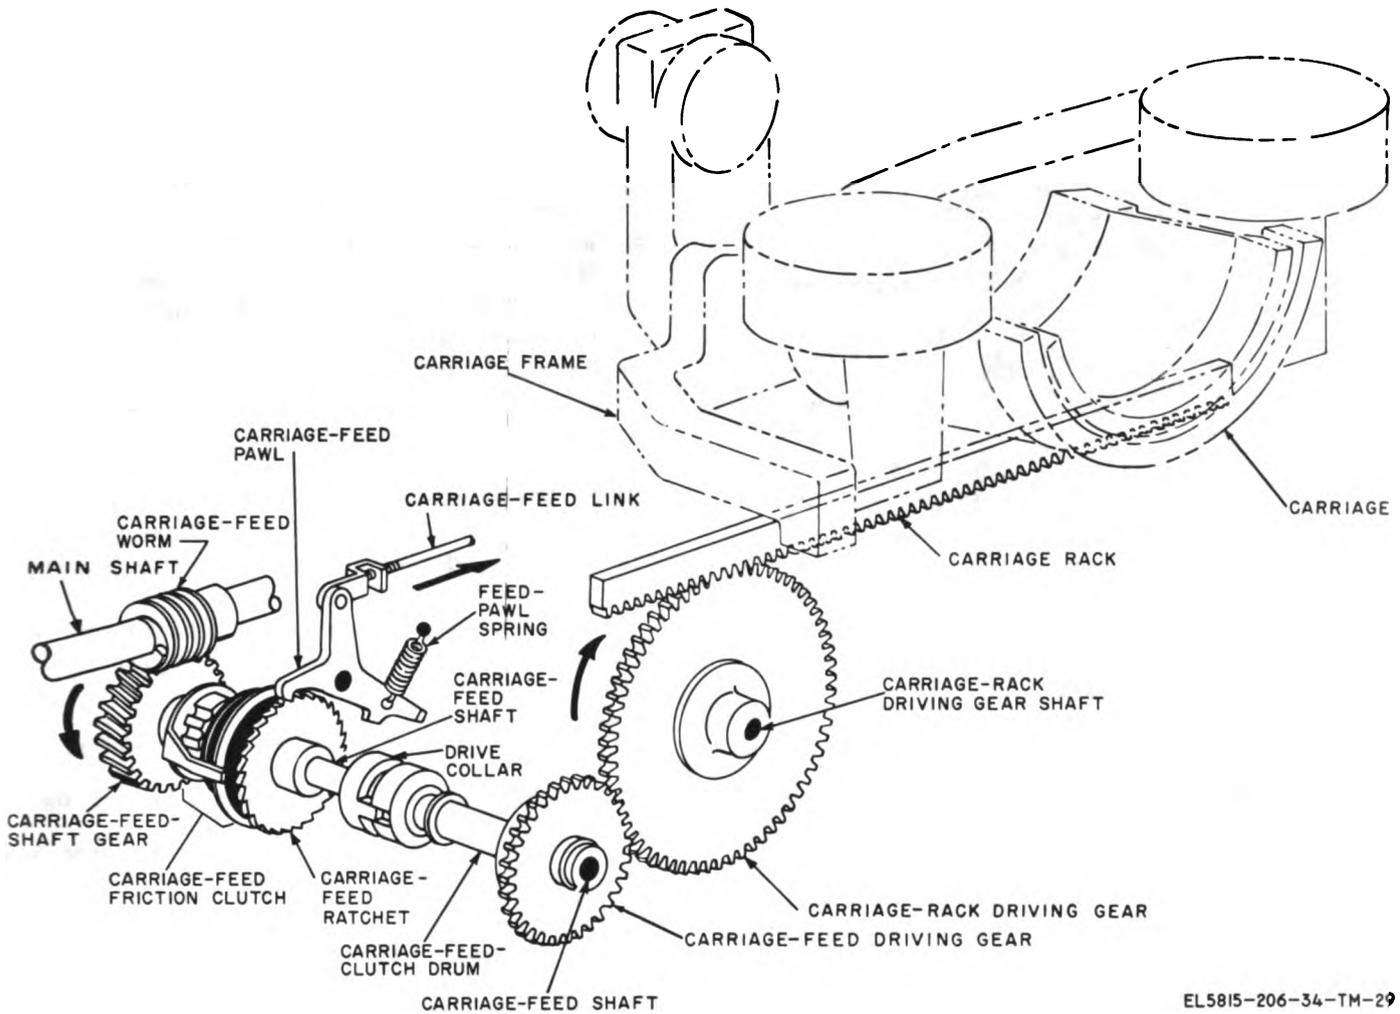

Figure 2-29. Carriage-feed mechanism.
The carriage (fig. 2-29) moves one space to the right automatically each time a character is printed. The carriage-feed operation causes clockwise rotation of the carriage-rack driving gear, to cause the carriage to move to the right. When a carriage-return code group is received, the carriage-rack driving gear rotates counterclockwise and the carriage moves to the left hand margin (para 2-24).
b. Carriage-Feed Shaft Assembly. Power to turn the carriage-feed shaft (fig. 2-29) is obtained from the main shaft (carriage-feed worm in mesh with carriage-feed shaft gear). When the motor is operating, the fork of the carriage-feed friction clutch and the center clutch disk rotate continuously, exerting a counterclockwise torque against the carriage-feed ratchet, which is firmly fastened to the carriage-feed shaft. When the carriage-feed pawl releases the carriage-feed ratchet (c below), the torque of the friction clutch turns the carriage-feed shaft, the drive collar, and the carriage-feed-clutch drum. The carriage-feed driving gear turns counterclockwise to cause the carriage-rack driving gear to turn clockwise to feed the carriage to the right.
c. Carriage-Feed Control. Movement of the carriage-feed pawl is controlled by the carriage-feed link (fig. 2-29) and the function-selecting arm mechanism (fig. 2-30).
(1) The function-selecting arm is attached to the
(2) When the carriage-feed link is pulled horizontally (fig. 2-29), it pivots the carriage-feed pawl slightly. The latching arm of the carriage-feed pawl releases the carriage-feed ratchet, and the friction clutch rotates the ratchet. Continue rotation of the function cam (fig. 2-30) permits the roller of the function-cam follower to move into a low portion of the cam. The support lever is pulled counterclockwise by its spring which permits the feed-pawl spring (fig. 2-29) to pull the latching arm of the carriage-feed pawl downward into the path of the next tooth on the carriage-feed ratchet. The carriage feed friction clutch again turns the carriage-feed ratchet slightly until it is stopped by the latching arm of the carriage-feed pawl.
(3) Total rotation of the carriage-feed ratchet during operation of the carriage-feed pawl (2) above), equals the distance between two teeth of the ratchet. When the ratchet rotates an amount equal to this distance, the carriage-feed driving gear and the carriage-rack driving gear rotate sufficiently to move the carriage one space to the right.
6	Carriage-feed link pulled (fig. 2-29).
13	Carriage-feed link moves horizontally (fig. 2-29).
The carriage returns to the left margin when the page printer receives the carriage-return code group (fig. 2-2), or when the manual carriage-return button on the right side of the page printer is pressed. The carriage-rack driving gear (fig. 2-29) rotates counterclockwise to move the carriage to the left. This movement is caused by pivoting the carriage-return-clutch lever in the direction shown in B, figures 2-34 and 2-35. When the lever pivots as shown, the carriage-return clutch drum engages the constantly rotating carriage-return-clutch disk (A, fig. 2-34 and 2-35) and the carriage-feed-clutch drum is disengaged simultaneously from the carriage-feed driving gear (B, fig. 2-34 and 2-35). When the carriage-return clutch members are engaged, the carriage-return driving gear turns clockwise, the carriage-return driven gear and carriage-rack driving gear turn counterclockwise, and the carriage moves to the left.